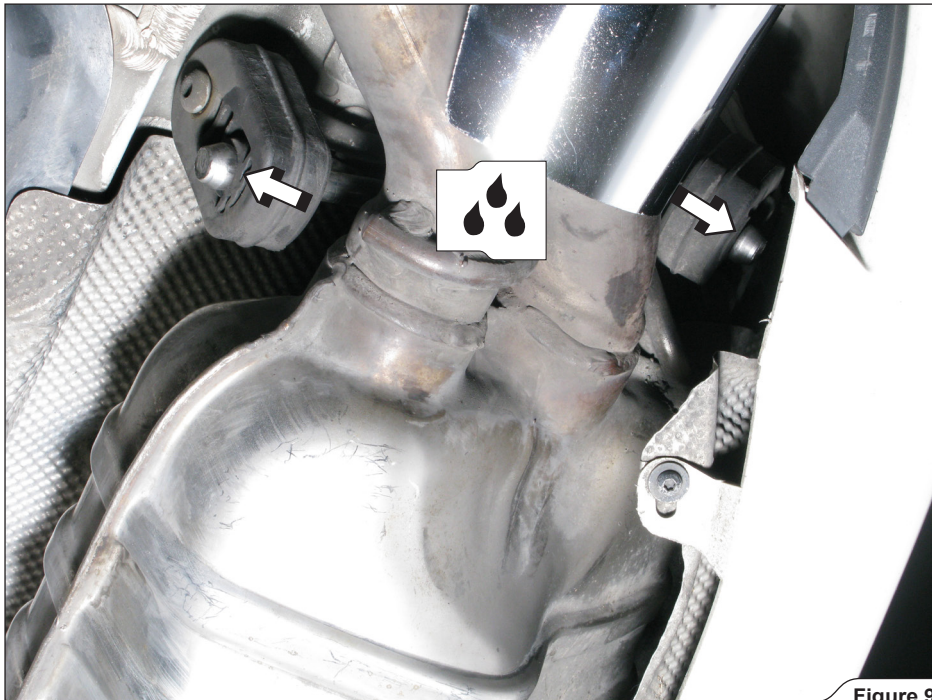

Figure 9
8. **For Evolution only:** carefully pull the rubber brackets off the muffler on both sides of the vehicle and remove the mufflers with pipes off the vehicle (**Figure 9**).